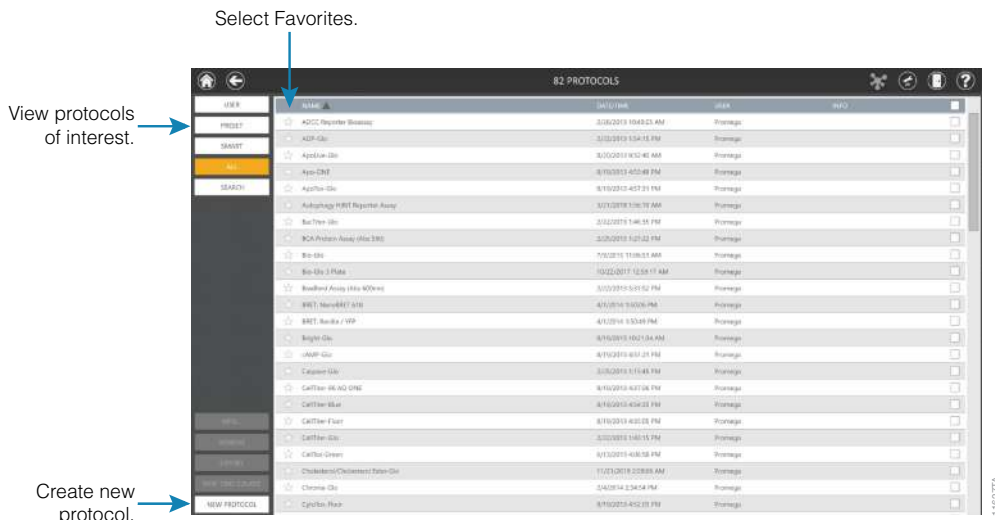

Figure 13. GloMax® Explorer ‘Protocols’ screen.
1. To create a new protocol, from the 'Protocols' screen, tap the **New Protocol** button at the bottom of the screen (Figure 13). To edit an existing protocol, select a preset or user-defined protocol from the 'Protocols' screen (Home → Protocols).